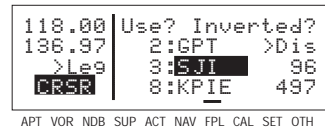

Figure 4-112
- Press **ENT** again to approve the waypoint page (figure 4-112).